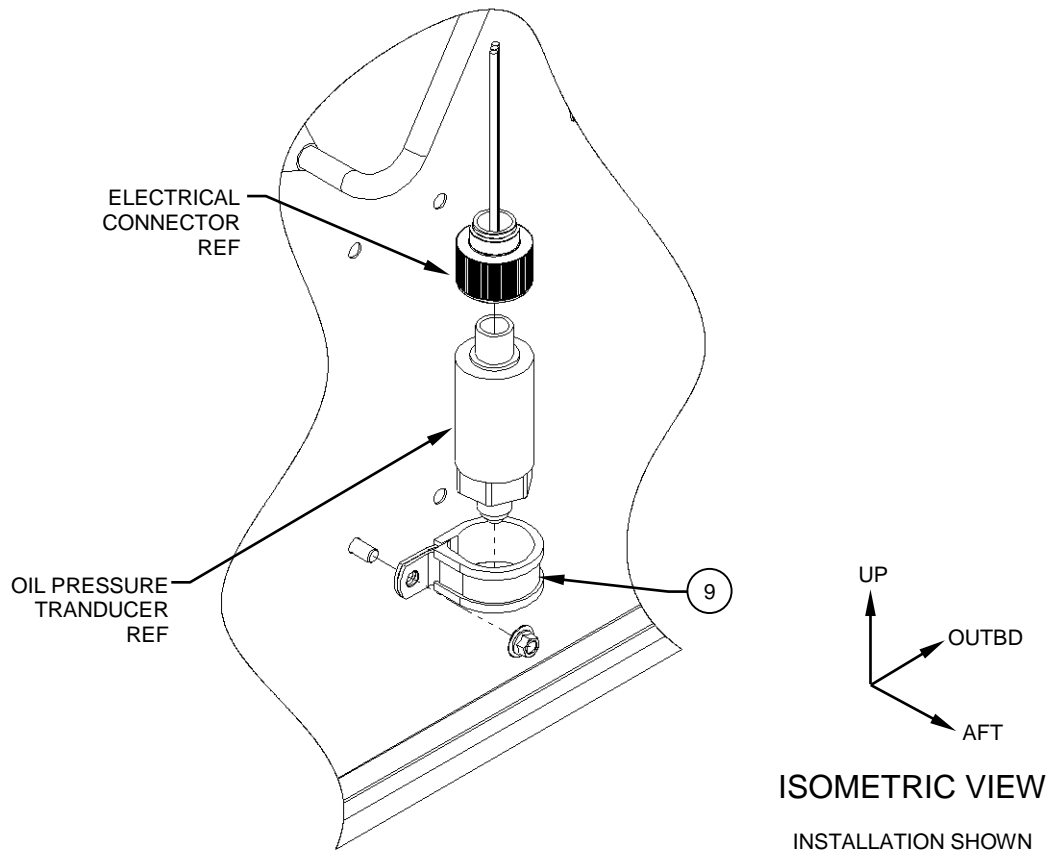

Figure 6
8. Locate and install the oil pressure transducer into the supplied Adel Clamp, Detail (Item 9) using the lower inboard existing fastener. Reference Figure 6.
9. Re-install the electrical connector to the oil pressure transmitter and safety-wire if appropriate. Reference Figure 6.